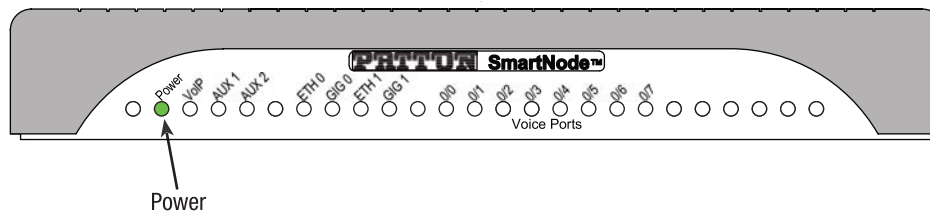

Figure 10. Power LED
- Verify that the green *Power* LED is lit (see figure 10). It blinks fast during bootloader phase and blinks slow during boot process of Trinity Software. It becomes solid when the system is up and running.